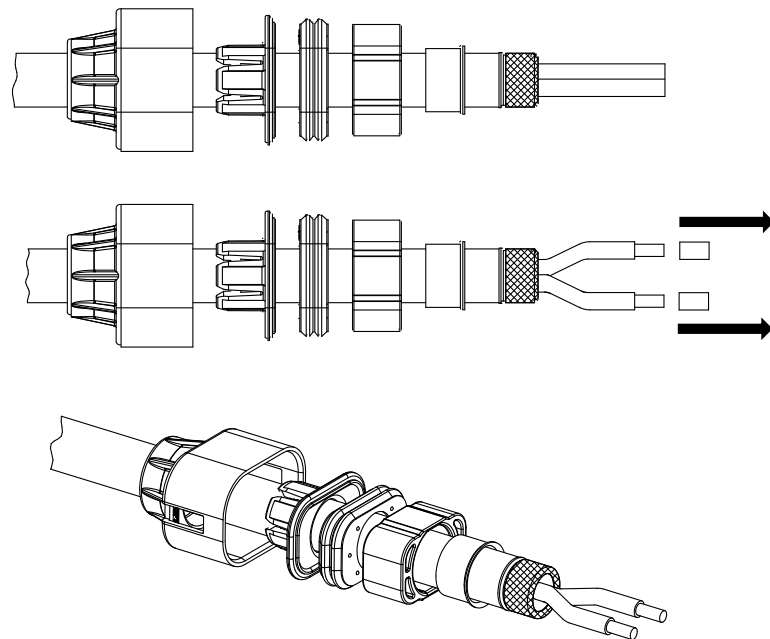

Figure 7
5. Separate conductors and strip to length as shown in Figure 7. Refer to Application Specification 114-18148-1 or 114-18387 for strip length.